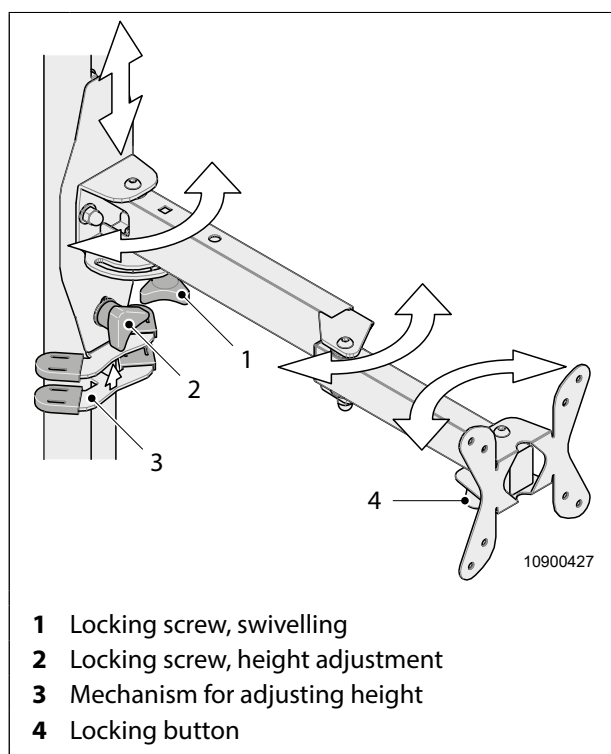

Fig. 24 TV bracket
1. Loosen the locking screw (Fig. 24, item 1).
2. Pull down and hold the locking button (Fig. 24, item 4).
4. Push up the locking button (Fig. 24, item 4).
5. Secure the TV bracket using the locking screw (Fig. 24, item 1).
1. Loosen the locking screw (Fig. 24, item 2).
2. Press and hold together the mechanism for adjusting the height (Fig. 24, item 3).
3. Adjust to the preferred height and release the mechanism for adjusting the height (Fig. 24, item 3).
4. Secure the TV bracket using the locking screw (Fig. 24, item 2).